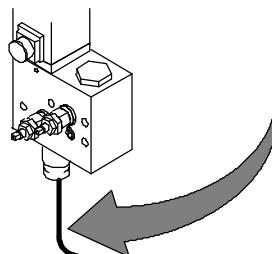

Fig. 26
- a) The breaking of the steel cable (code 01001567, tav. 4-5-6) causes the immediate ascent of the arm beyond the maximum limit (Fig. 26). **Immediately switch off the motor, to avoid its burning out, and replace the damaged part.**